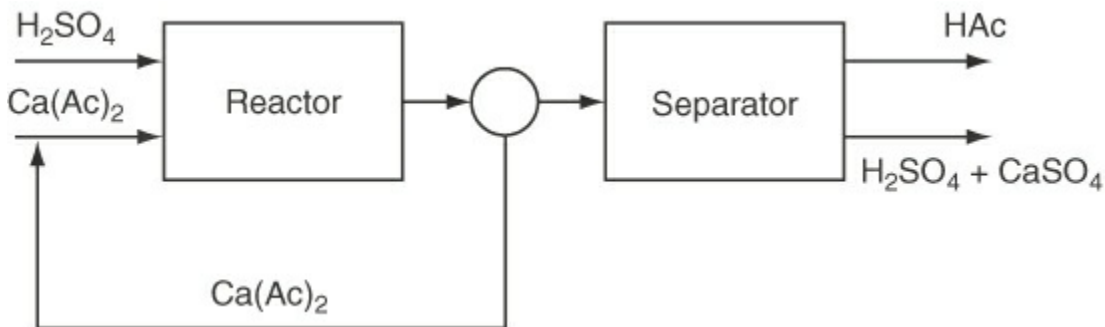

Figure P5.3.10
****5.3.10** Acetic acid (HAc) is to be generated by the addition of 10% excess sulfuric acid to calcium acetate (Ca(Ac)₂). The reaction $\text{Ca}(\text{Ac})_2 + \text{H}_2\text{SO}_4 \rightarrow \text{CaSO}_4 + 2\text{HAc}$ goes to 90% completion based on a single pass through the reactor. The unused Ca(Ac)₂ is separated from the products of the reaction and recycled. The HAc is separated from the remaining products. Find the amount of recycle per hour based on 1000 kg of Ca(Ac)₂ feed per hour, and also calculate the kilograms of HAc manufactured per hour. See Figure P5.3.10, which illustrates the process.